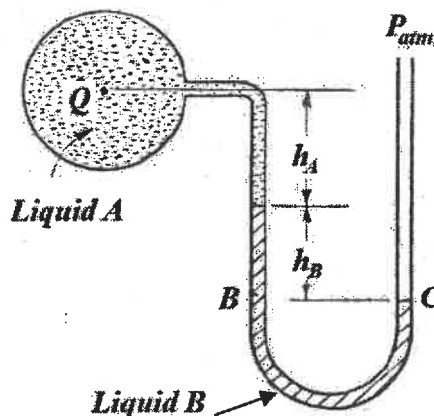

Figure 1
- (b) A U-tube manometer is used to measure the pressure of the liquid in tank Q as shown in Figure 1. The specific gravity of liquid A is 0.85, liquid B has a relative density of 2.2 with h_A and h_B of 12 cm and 10 cm, respectively. Calculate the pressure in tank Q if the atmospheric pressure is 102 kPa. (7 marks)